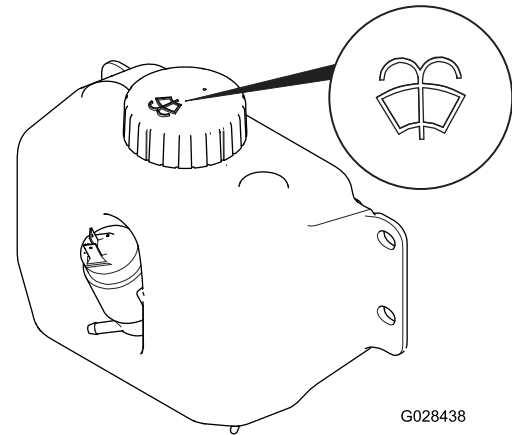

Figure 90
2. Open the hood and locate the washer-fluid bottle (Figure 90).